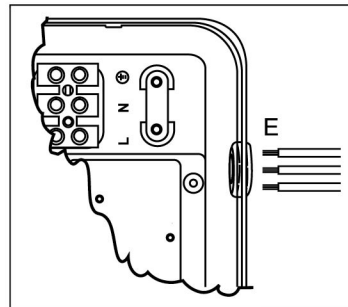

Fig. 5 - Electrical connection to Heater
**iii) ELECTRICAL CONNECTION (Refer to Fig. 5)**